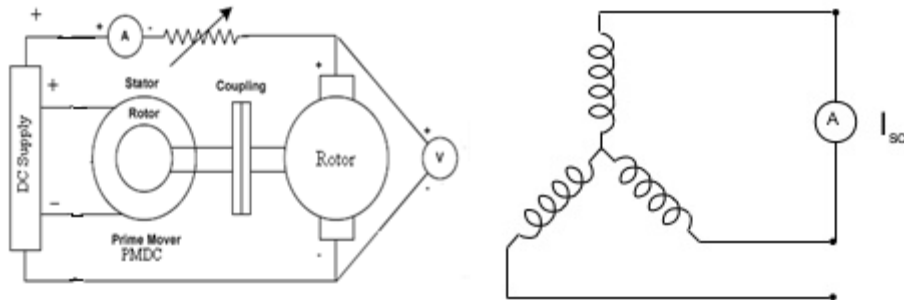

Figure 10.4: Short circuit test
1. Make connections as shown in Figure 10.4